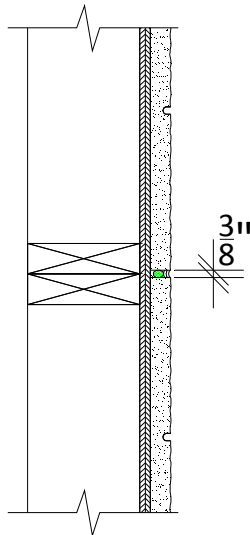

Fig. 7 – Horizontal Panel Joint Spacing
- Once finished with the first level of panel installation continue to the second level. Installation will be the same as the first level. Caution should be taken as your height of installation increases as the panels are very heavy. If necessary equipment can be utilized to help during the installation. It is the responsibility of the installer to determine the proper use and attachments of panels to such equipment. (Fullerton can suggest types and uses of equipment if requested) Be sure to allow for horizontal joint spacing unless noted otherwise. See fig. 7